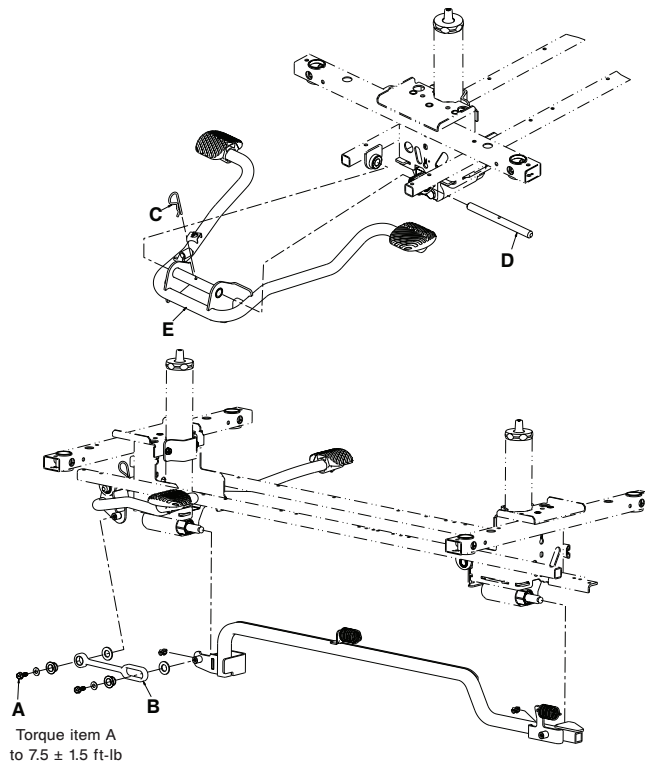

Figure 14 – Replace side the pump pedal
4. Using a 1/2" socket with a 3/8" drive extension and a 3/8" drive ratchet, remove the hex washer head screw (A) that secures the pump pedal link (B) to the pump pedal (Figure 14).